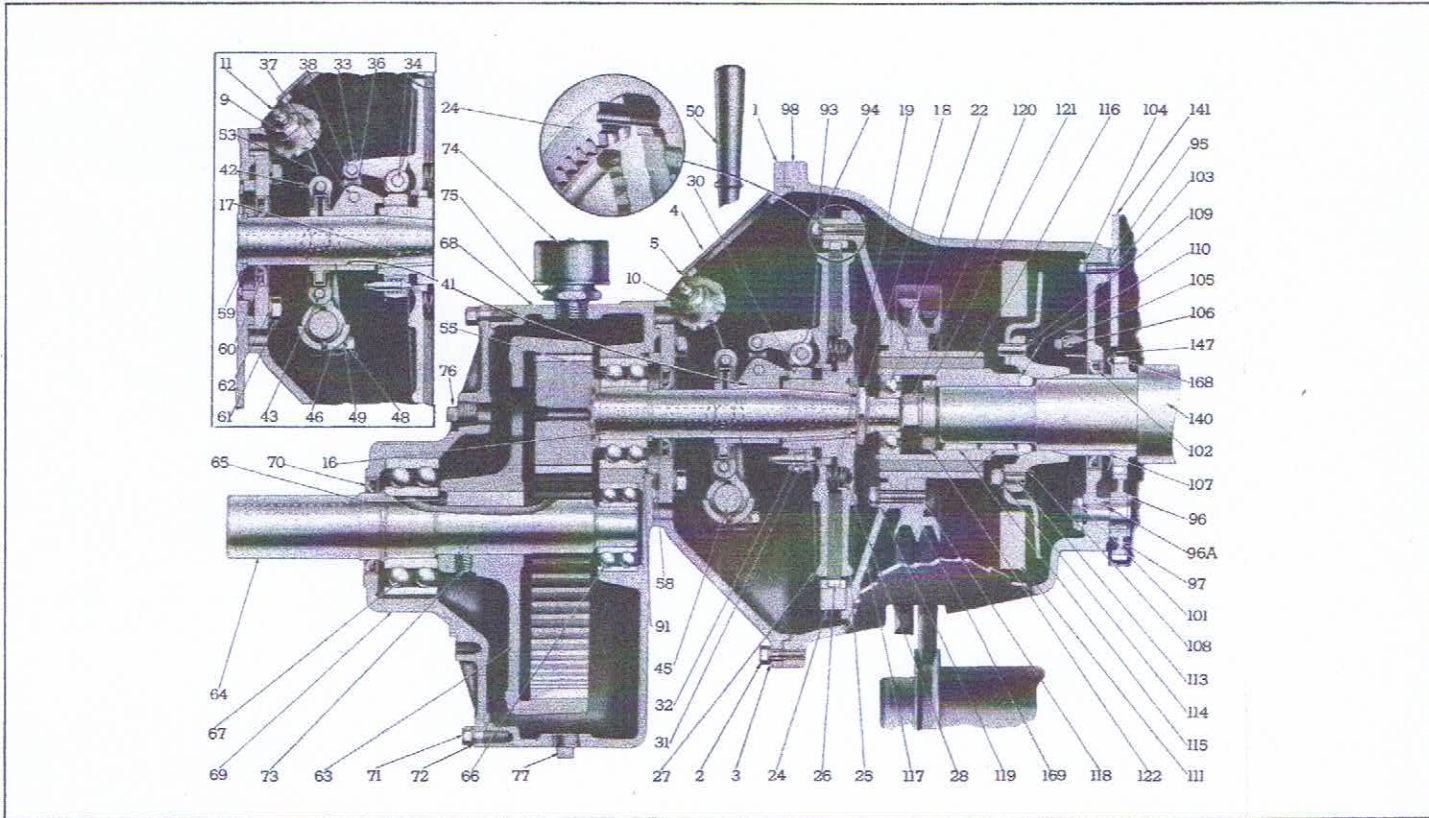

FIG. 56—REDUCTION GEAR FRONT END POWER TAKE-OFF ASSEMBLY—MODEL 5168192.
Both the direct drive and the reduction gear front end power take-off units attach to the front end of the engine crankshaft in the same manner. A rubber hub coupling keyed and locked to the crankshaft carries a clutch driving adapter to which the power take-off clutch driving plate (25) is bolted. Surrounding the clutch and driving parts is a second power take-off front end adapter (housing) that is bolted to the engine cylinder block end plate (141) at the aft end and to the power take-off unit at the forward end (see Fig. 56).
Fig. 56 illustrates the drive from the pinion—integral with clutch shaft (16)—to the annular power take-off drive gear (63), which is keyed to the power take-off shaft (64). This latter shaft is mounted on a double-row ball bearing at each side of the drive gear (63). The aft bearing (one nearest clutch) is carried in the reduction gear housing (68). The forward bearing is carried in the gear cover plate (69). An oil seal (70), at the power take-off shaft forward bearing, retains lubricant in the gear housing.